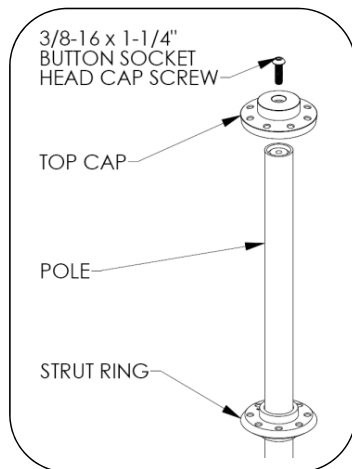

Fig. 2 – Install top ring
3. Install the top cap with the 3/8-16 x 1-1/4" socket button head cap screw. See Fig. 2.